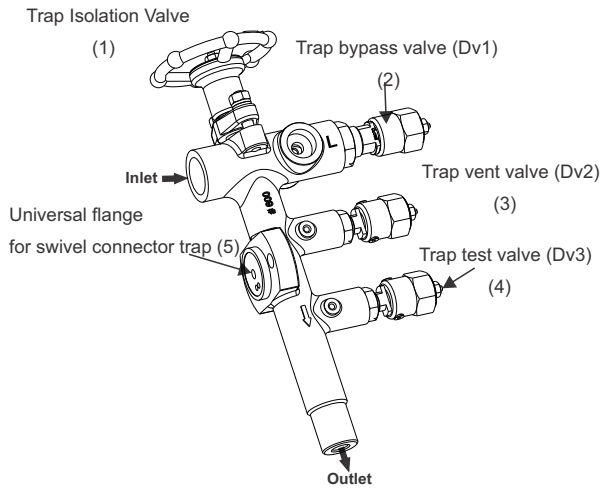

Figure 1:Forbes Marshall Pipeline connector with (DV1, DV2 and DV3)
6.1. Flushing of lines: [Refer figure 1]
6.2. Commissioning: [Refer figure 1]